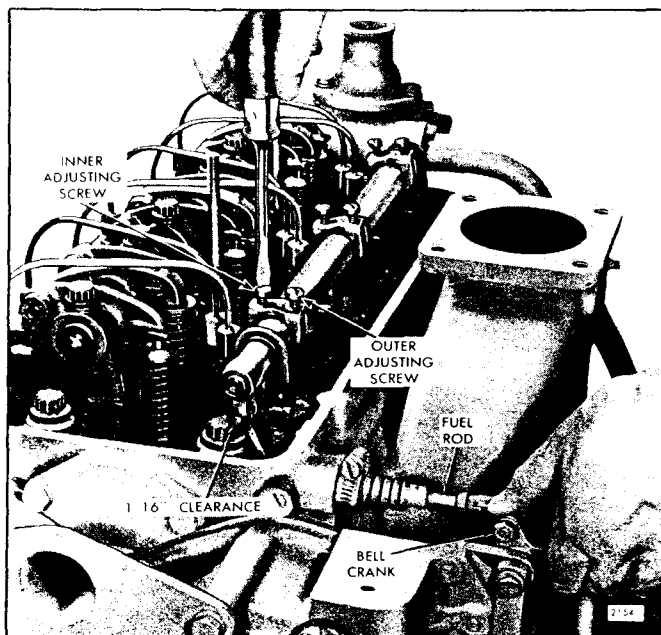

Fig. 1 - Positioning Injector Rack Control Lever
2. Loosen all of the inner and outer rack control lever adjusting screws (Fig. 1). Be sure all of the levers are free on the injector control tube.
3. Lift upward on the bell crank, as shown in Fig. 1, to move the injector racks into the full-fuel position and turn the inner adjusting screw down until a 1/16" clearance exists between the fuel rod and the cylinder head or the cylinder head bolt, whichever it contacts.